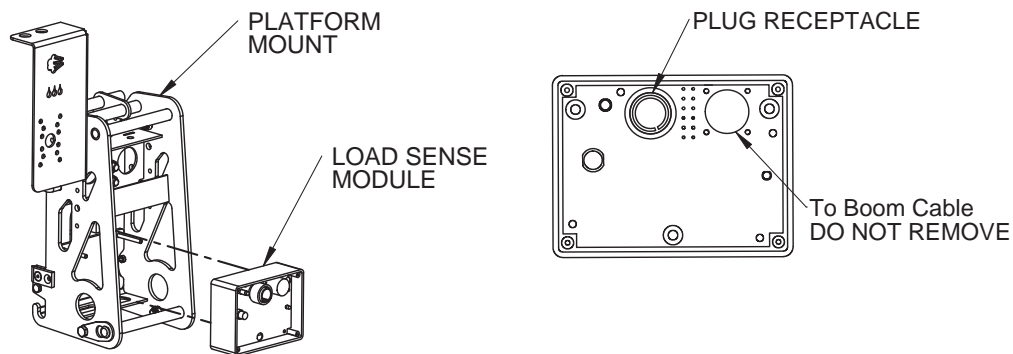

Figure 6-2. Disconnect Plug from Load Sense Module
- Disconnect the platform (upper) control box's **PLUG**; from the **LOAD SENSE MODULE**, located on the **PLATFORM MOUNT**. Refer to Figure 6-2